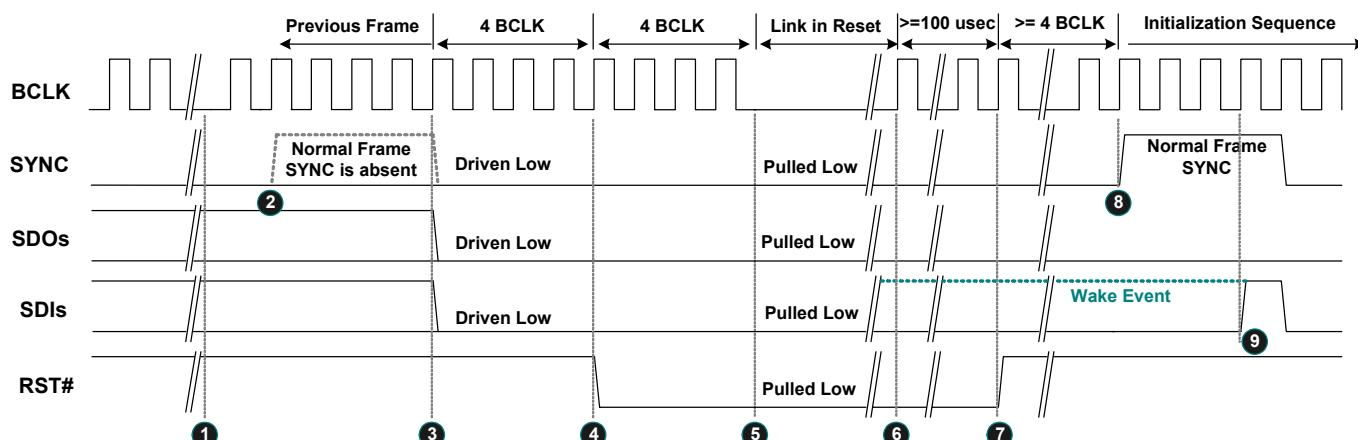

Figure 13. Link Reset Timing
3. Software initiates power management sequences. Figure 13, page 17, shows the ‘Link Reset’ timing including the ‘Enter’ sequence (①~⑤) and ‘Exit’ sequence (⑥~⑨)